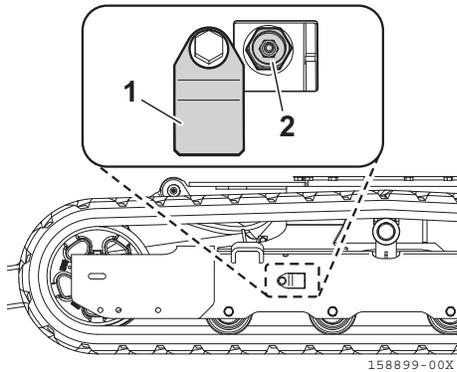

Fig. 8-9
1. Remove the cover (Fig. 8-9, 1).
2. Raise the machine using the implement and the safety blocks. Inject grease through the nipple valve (Fig. 8-9, 2) using a grease gun until the rubber crawler tension has achieved the proper clearance [0.3 to 0.5 in. (8 to 13 mm)].
5. Install the cover (Fig. 8-9, 1).